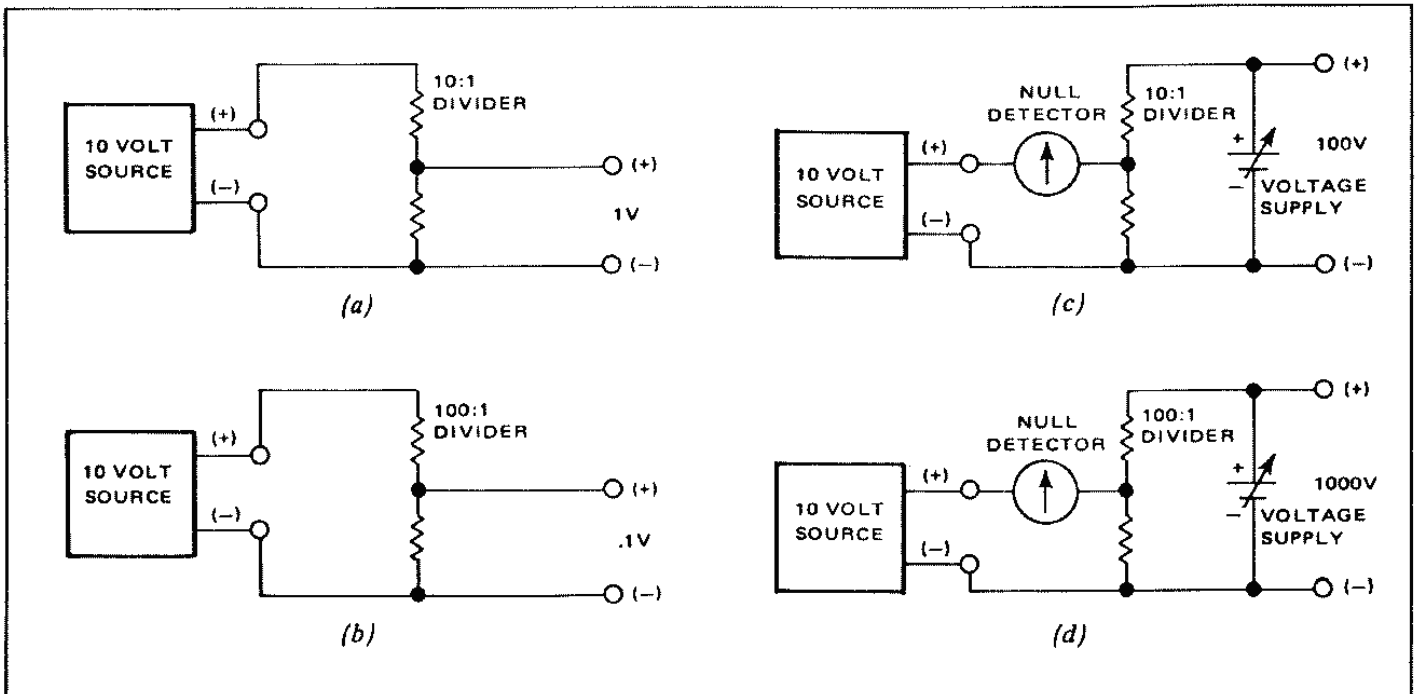

Figure 5.2 - Generating Accurate DC Levels
5.16 The remainder of the dc sources can be generated by the circuits shown in figure 5.2. Each of these hookups use a calibrated 10 volt source having the characteristics of the one previously described.